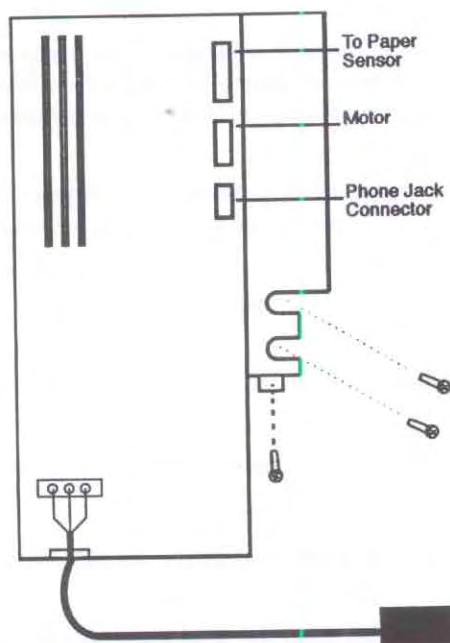

Figure 5-2. Top View of the E-box
6. Disconnect the cables from the E-box connectors shown in Figure 5-2.